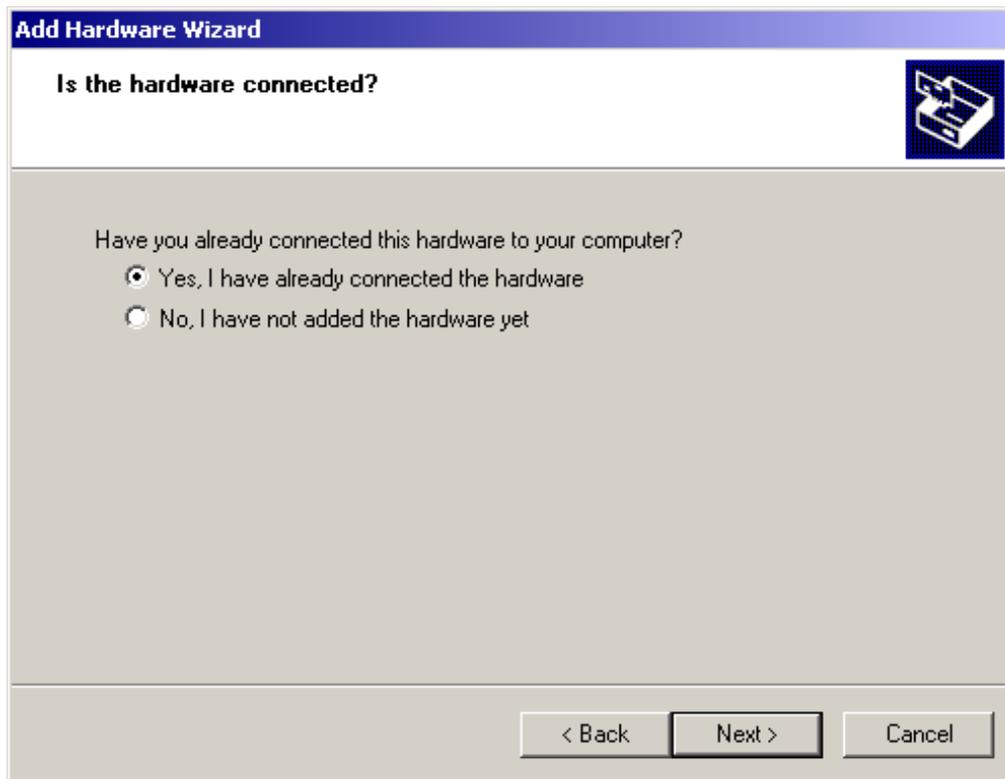

FIGURE 192. Is the hardware connected screen
6. As in Figure 192, the Wizard will prompt you to determine whether or not the hardware has already been connected.